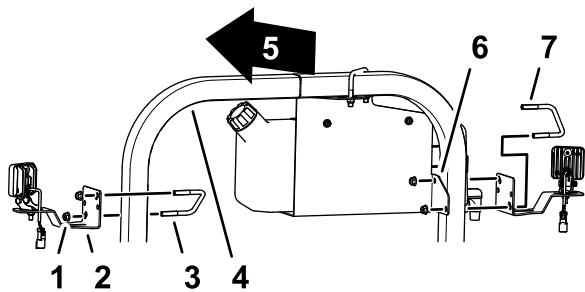

Figure 5
1. At the left side of the ROPS, remove the U-bolt (3/8 x 3-1/2 x 2-13/16 inches) and flange locknut that secures the mount for the fresh-water tank to the ROPS tube (Figure 5).
2. Assemble the LED light and bracket to the ROPS tube and fresh water-tank mount as shown in Figure 5 with the U-bolt (3/8 x 3-1/2 x 2-13/16 inches) and the flange locknut (3/8 inch) that you removed in step 1.
3. At the other side of the ROPS tube, assemble the LED light and bracket to the ROPS tube with a U-bolt (3/8 x 3-1/2 x 2-13/16 inches) and a flange locknut (3/8 inch) from the rear work light kit (Figure 5).